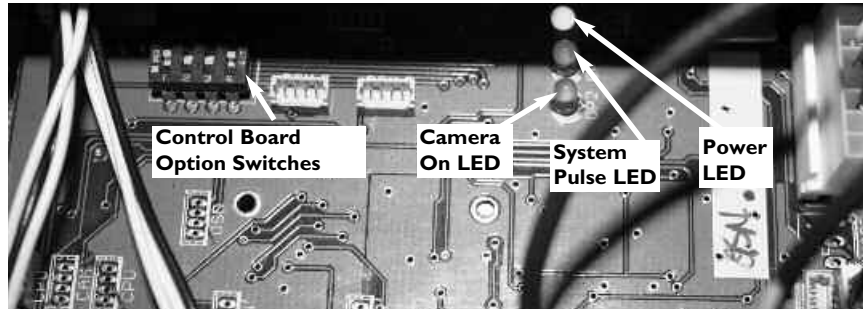

Figure 4: Control Board
1. Located on the control board are the Control Board LED's. See **Figure 4**.
Options may be controlled via the four "Options Switches," see **Figure 4**, see **Detail A** for their respective functions. It is advised to verify operation first by using the On Screen PVD Menu to control these options. After verification of settings via the PVD Menu the Control Board Option switches can be accessed.